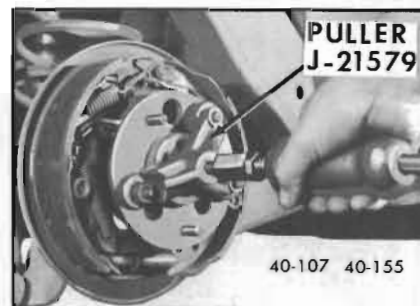

Figure 40-107—Removing Rear Axle Shaft
4. Pull out axle shaft assemblies using Puller J-21579 with a slide hammer. See Figure 40-107.